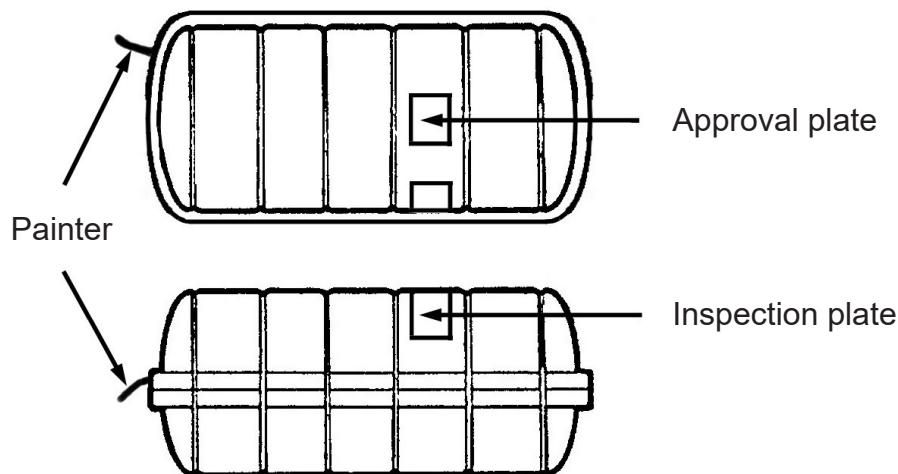

FIGURE A2-1A
- If a metal plate is currently being used it must be replaced with a metal plate. Refer to TABLE A2-1A for parts required and FIGURE A2-1A for positioning.